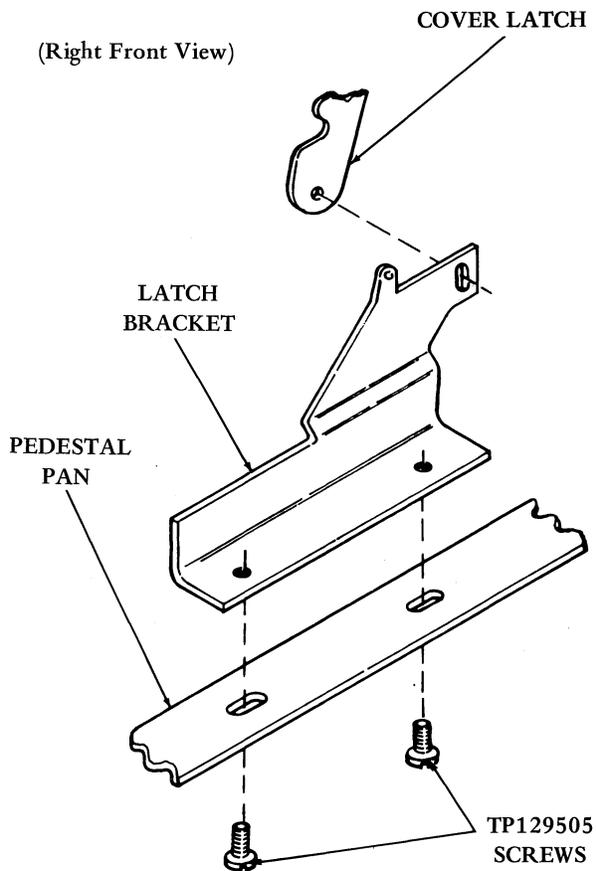

Figure 1 - Cover Latch Assembly
2.04 Remove two TP192274 pan head screws which secure the cover latch and replace them with two shorter TP129505 screws (Figure 1).